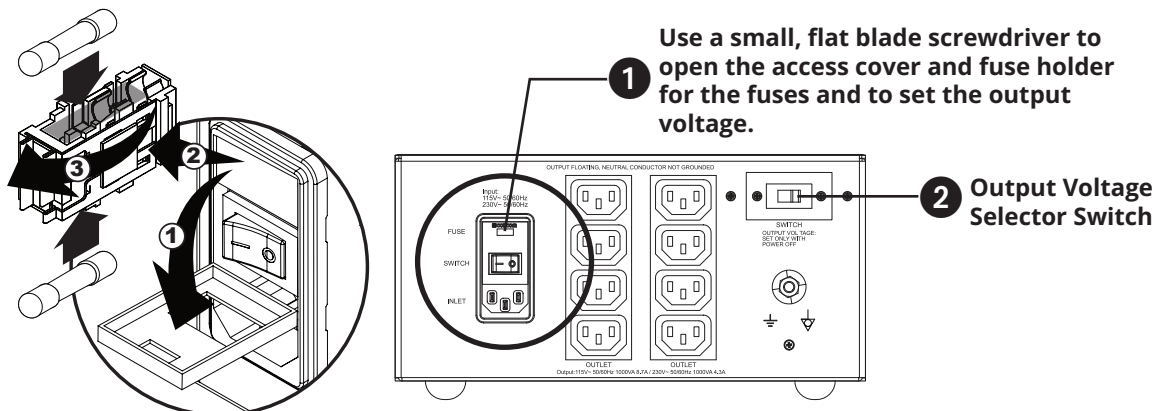

Figure 2
Input voltage selection is made via the inlet fuse holder (Figure 2). The voltage selected will display above the power switch ①. You will also have to insert the correct fuse value depending on input voltage. For correct fuse value, see the table in section 3.1.5. Output voltage selection is made with the selector switch ②. The Output voltage selector switch section comes equipped with a plate cover that has a small opening. Use a small, flat-blade screwdriver to access the small opening to set the output voltage.